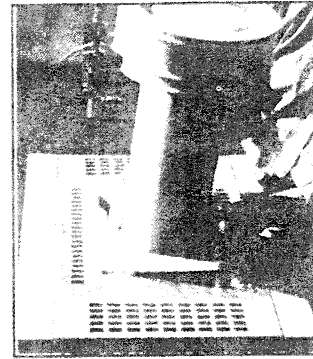

Fig. 6 Inserting Adapter Plate
- e. Slide the adapter plate over the bottom of the stack extension as shown in Fig. 6. Fit the stack extension down over the flue transition ring. Seat the adapter plate on the top assembly and secure it with two screws.